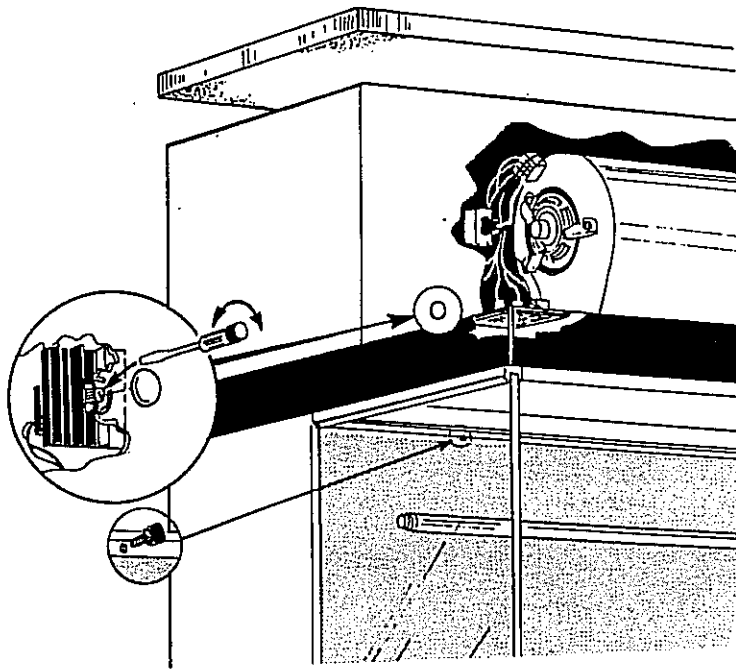

Figure 11
- (1) Locate the diffuser captive screws, shown in Figure 11. Loosen all of the screws and remove the diffuser by pulling it straight forward.
- (1) Unplug the Clean Bench.
- (2) Locate the diffuser captive screws, shown in Figure 11. Loosen all of the screws and remove the diffuser by pulling it straight forward.
- (3) Loosen and remove all of the filter clamping devices. If the clamp binds onto the clamping rod, **GENTLY** tap or pry the clamp loose. Remove the filter by pulling it straight out of the unit. Install the new filter by reversing the above steps.